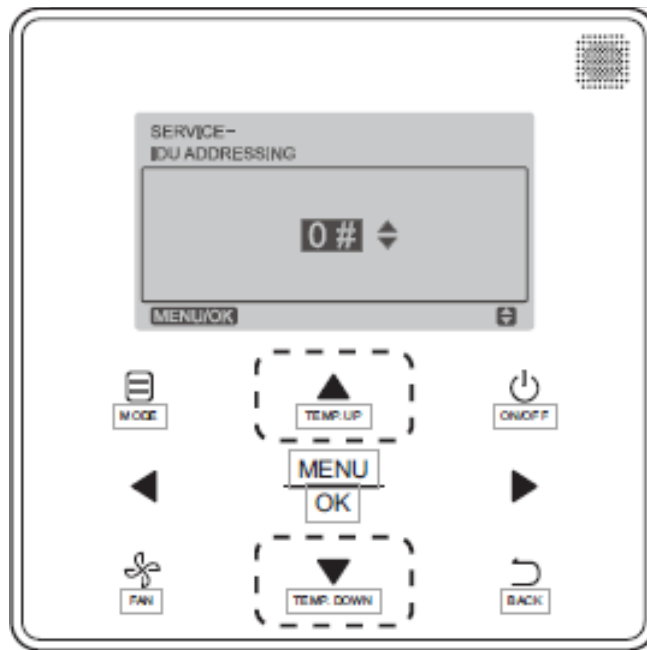

Fig. 28 —Programmable Controller Setting IDU Address
3. Press **TEMP.UP** or **TEMP.DOWN** to choose the address you want to set as shown in Fig. 28. Press **MENU/OK** to send this address to the IDU.